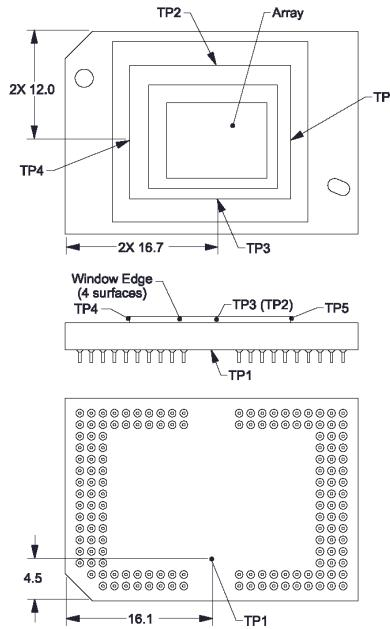

Figure 16. Thermal Test Point Location
Achieving optimal DMD performance requires proper management of the maximum DMD case temperature, the maximum temperature of any individual micromirror in the active array, the maximum temperature of the window aperture, and the temperature gradient between case temperature and the predicted micromirror array temperature. (see Figure 16).
The DMD is designed to conduct absorbed and dissipated heat to the back of the Series 450 package where it can be removed by an appropriate heat sink. The heat sink and cooling system must be capable of maintaining the package within the specified operational temperatures, refer to Figure 16. The total heat load on the DMD is typically driven by the incident light absorbed by the active area; although other contributions include light energy absorbed by the window aperture and electrical power dissipation of the array.
The temperature of the DMD case can be measured directly. For consistency, Thermal Test Point locations TP1 - TP5 are defined, as shown in Figure 16.
Micromirror array temperature cannot be measured directly; therefore it must be computed analytically from measurement points (Figure 16), the package thermal resistance, the electrical power, and the illumination heat load. The relationship between micromirror array temperature and the case temperature are provided by Equation 1 and Equation 2:
- T_{Ceramic} = Ceramic temperature (°C) (TC2 Location Figure 16)